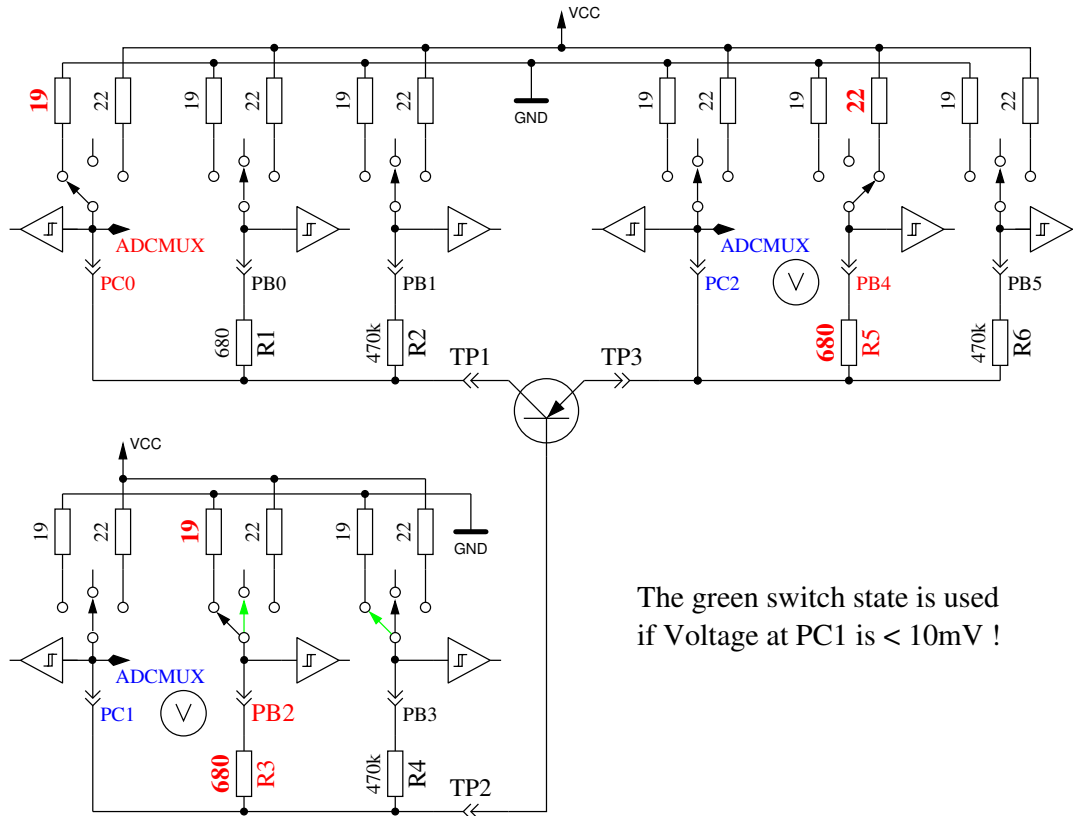

Figure 5.3: hFE measurement of PNP transistor with common collector circuit
First the current amplification factor is measured with common collector for the assumed PNP transistor. The measuring situation is shown in figure 5.3. If the measured voltage at the Base (UB) is above 9mV with the 680Ω resistor, the hFE is build as $hFE = \frac{UE-UB}{UB}$. The voltage UE is the difference of the Emitter-voltage to VCC. The difference between the 22Ω and 19Ω resistors are not respected. If the UB voltage is below 10mV, the measurement is done with the 470kΩ resistor at the base. In this case the current amplification factor is build as $hFE = \frac{UE \cdot 470000}{UB \cdot (680 + 22)}$.